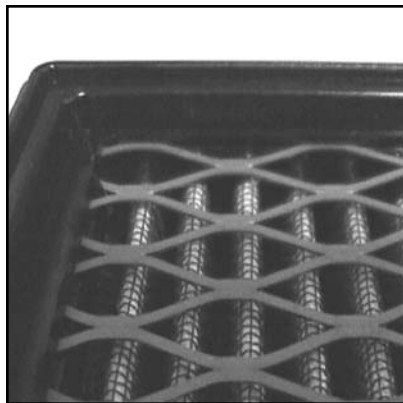

Fig. 1
3. Inspect the K&N Air Filter making sure the metal support wires are seated in the grooves on the air filter. There is no need to remove these when servicing the filter. (Fig. 1)